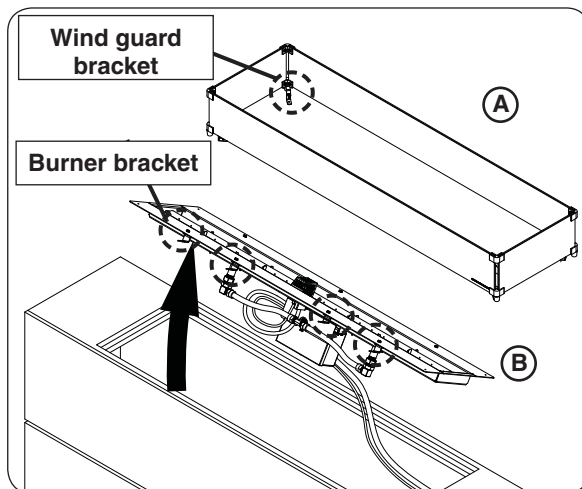

Fig. 34-1 Remove wind guard, then burner assy
1. Remove wind guard from the burner. Use a $\frac{5}{16}$ " nut driver to unfasten the four screws found on the burner assembly. See Fig. 34-1, A.
2. Use a $\frac{5}{16}$ " nut driver to partially unfasten the eight screws found on the burner assembly. Then remove the burner and set it off to the side. See Fig. 34-1, B.